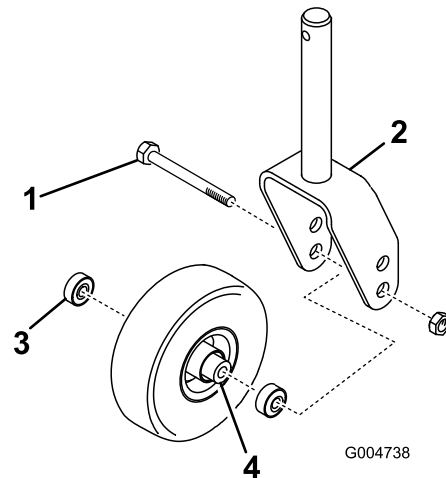
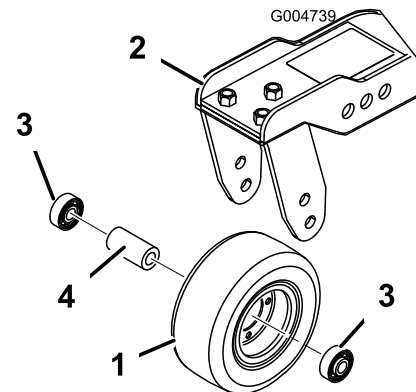

Figure 87
Figure 88
1. Remove the locknut from the bolt holding the caster-wheel assembly between the caster fork (Figure 87) or the caster-pivot arm (Figure 88).
2. Remove the bearing from the wheel hub and allow the bearing spacer to fall out (Figure 87 and Figure 88).